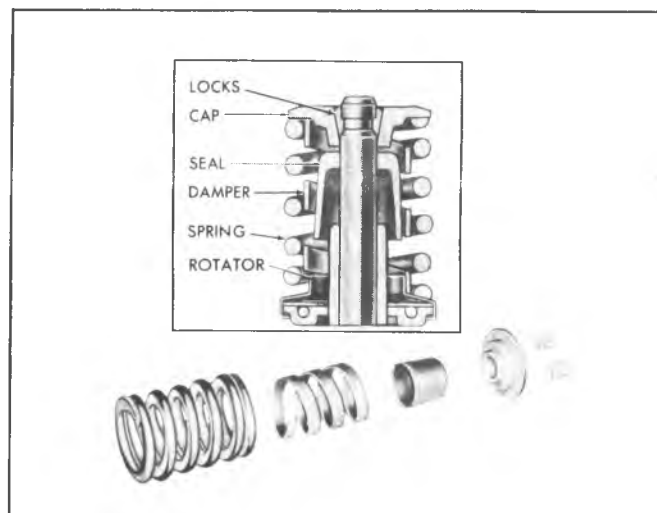

Fig. 6A5-23--Valve Spring Installation
b. Set the valve spring (with damper); and valve cap in place (fig. 6A5-23).
4. Check the installed height of the valve springs, using a narrow thin scale. A cutaway scale will help (fig. 6A5-24). Measure from the top of the shim or the spring seat to the top of the valve spring or valve spring shield (fig. 6A5-25). If this is found to exceed the specified height, install a valve spring seat shim approximately 1/16" (1.6mm) thick. At no time should the spring be shimmed to give an installed height under the minimum specified.